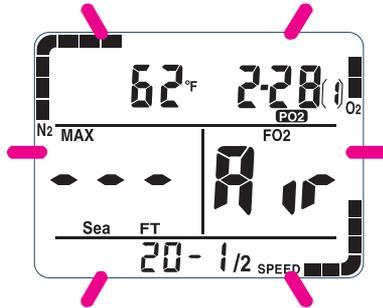

Figure 15
**Out of Measurement Range warning:** If the computer entered out of range during the dive, then the event is recorded in memory and the entire display will blink during the log mode. (Fig. 15)